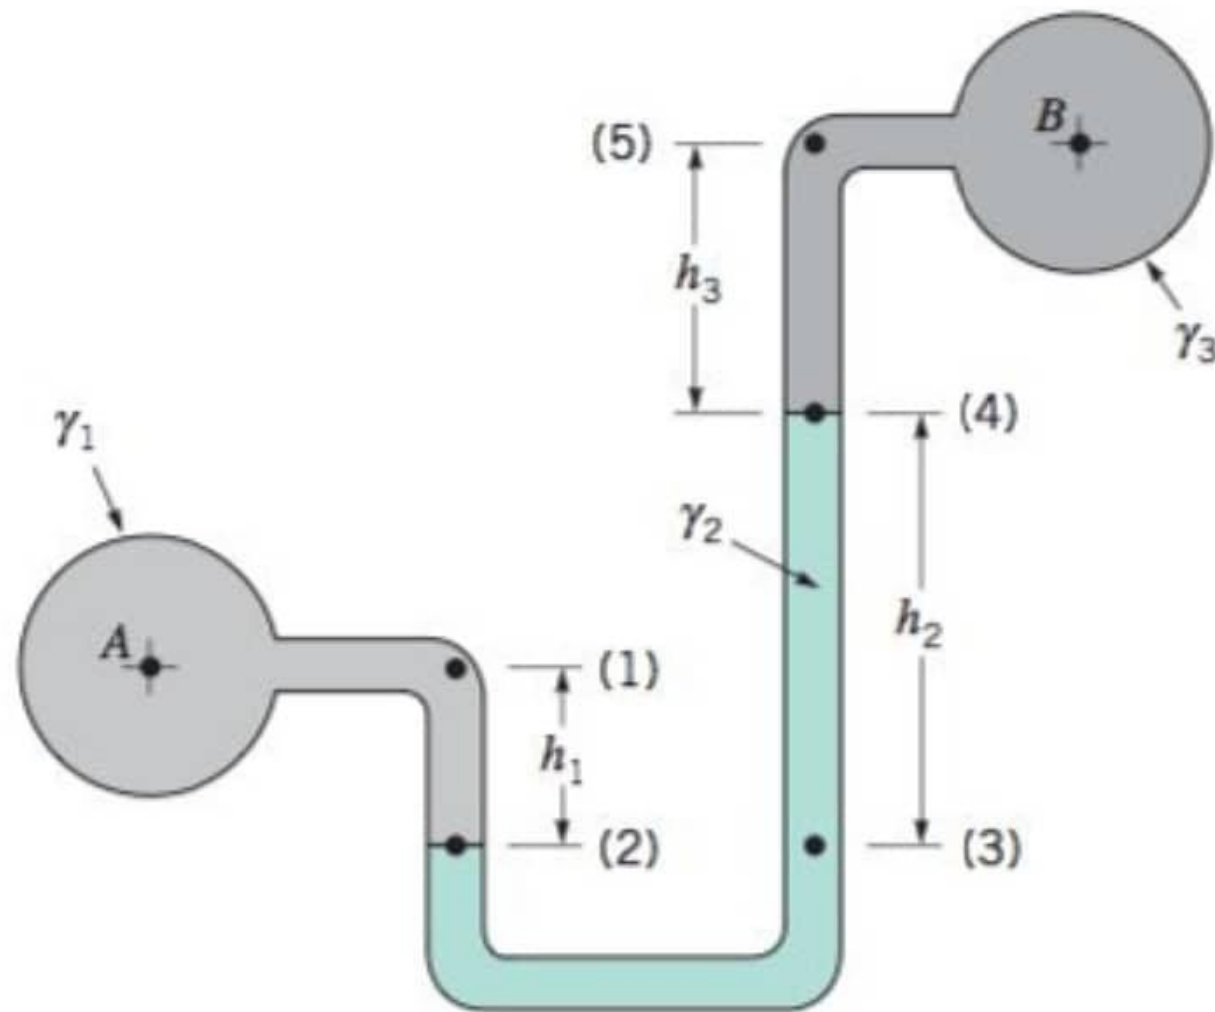

Fig. 5: Differential U-Tube Manometer
- The U-Tube manometer is also used to measure the difference in pressure between two containers as shown in Figure 5.